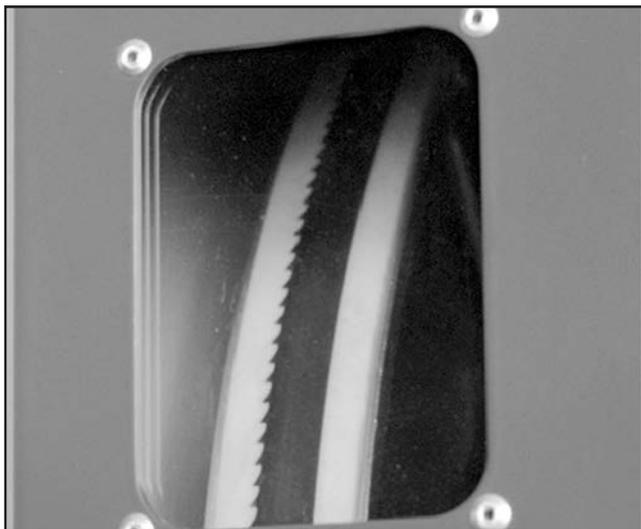

Figure 17. Blade tracking window.
8. Look through the blade tracking window (see **Figure 17**) and notice the position of the blade on the wheel.